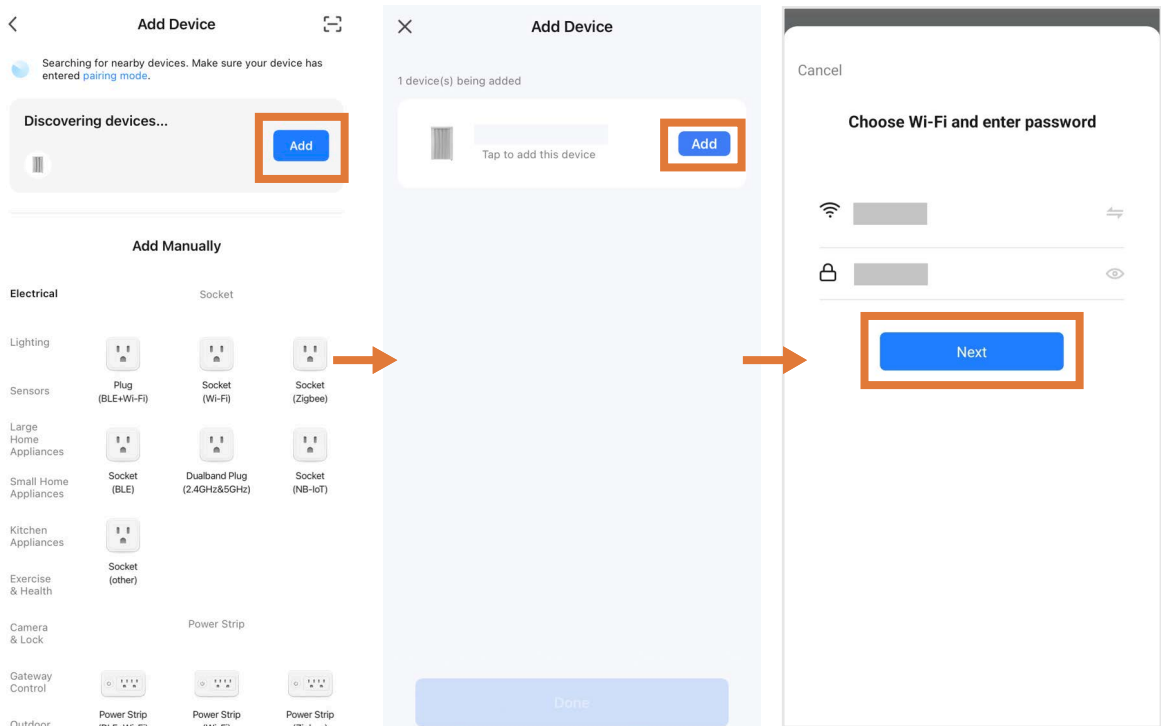

Figure 12 | Finding device on Smart Life app
- The app will demonstrate that it has found the radiator (see **Figure 12**). Press “Add”, then tap the **+** icon.